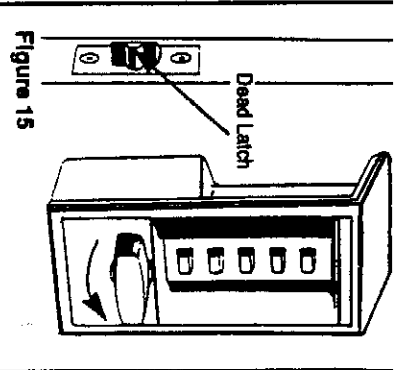

Figure 15
6. Turn **outside** thumbturn counterclockwise to stop position and release to clear old combination. (Figure 15 on page 10)